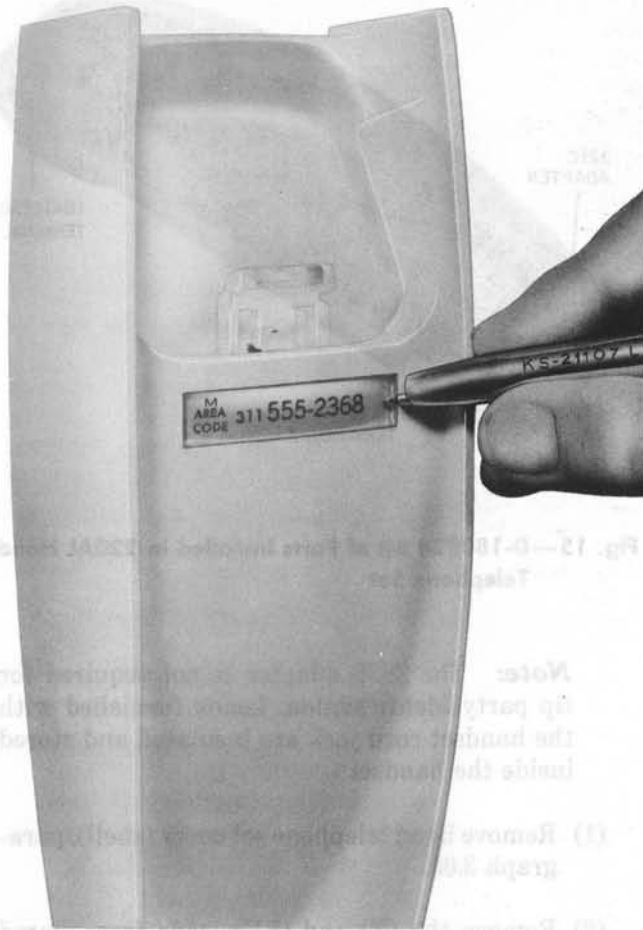

Fig. 13—Removing Number Card Retainer
- (1) Use a KS-21107L1 tool or equivalent to remove number card retainer (Fig. 13).
- (2) Use a 3/16-inch blade screwdriver and back out the two exposed screws.
- (3) Lift housing off the base.